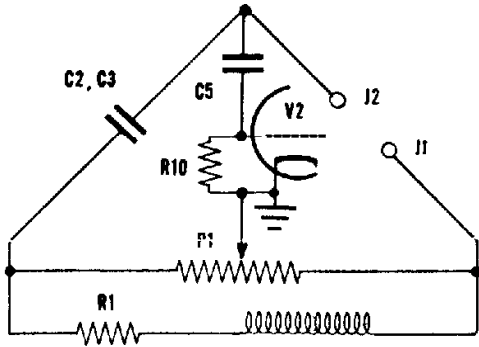

Fig. 1
- Fig. 1. Bridge circuit for "10mmfd - 5000mmfd" range (C2) and ".001 mfd-.5mfd" range (C3).